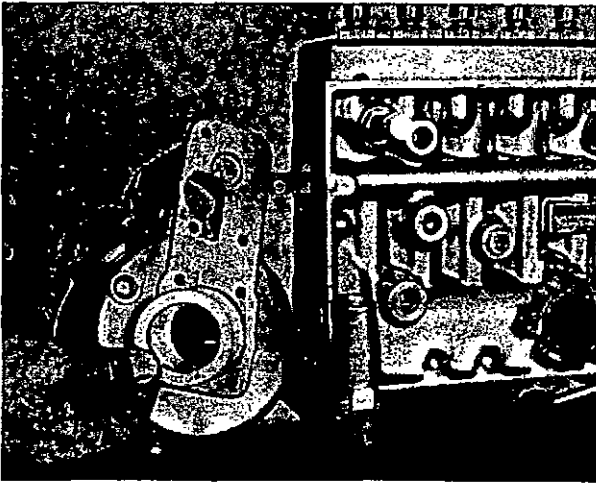

Fig. 11 Removing governor casing and adjusting plate
9. Remove the governor housing and adjusting plate from the opposite end (fig. 11).